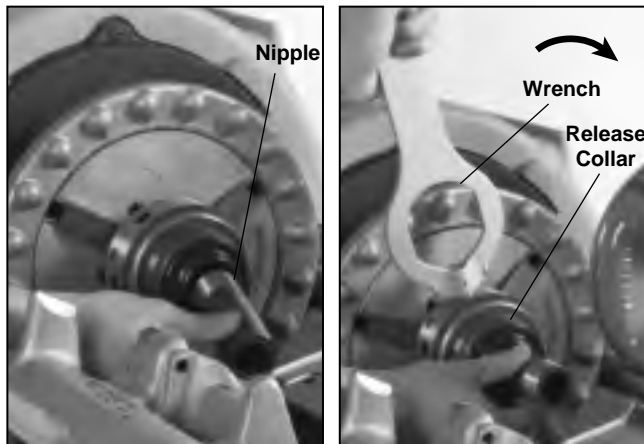

Figure 20 – Installing Unfinished Nipple and Releasing Finished Nipple with Wrench
5. Screw nipple (Figure 20) threaded on one end into adapter by hand. Turn directional switch to ON and press down on foot switch. Ream and thread other end.
6. Insert pin on end of wrench (Figure 20) into one of holes in nipple chuck release collar and turn. Remove threaded nipple by hand.